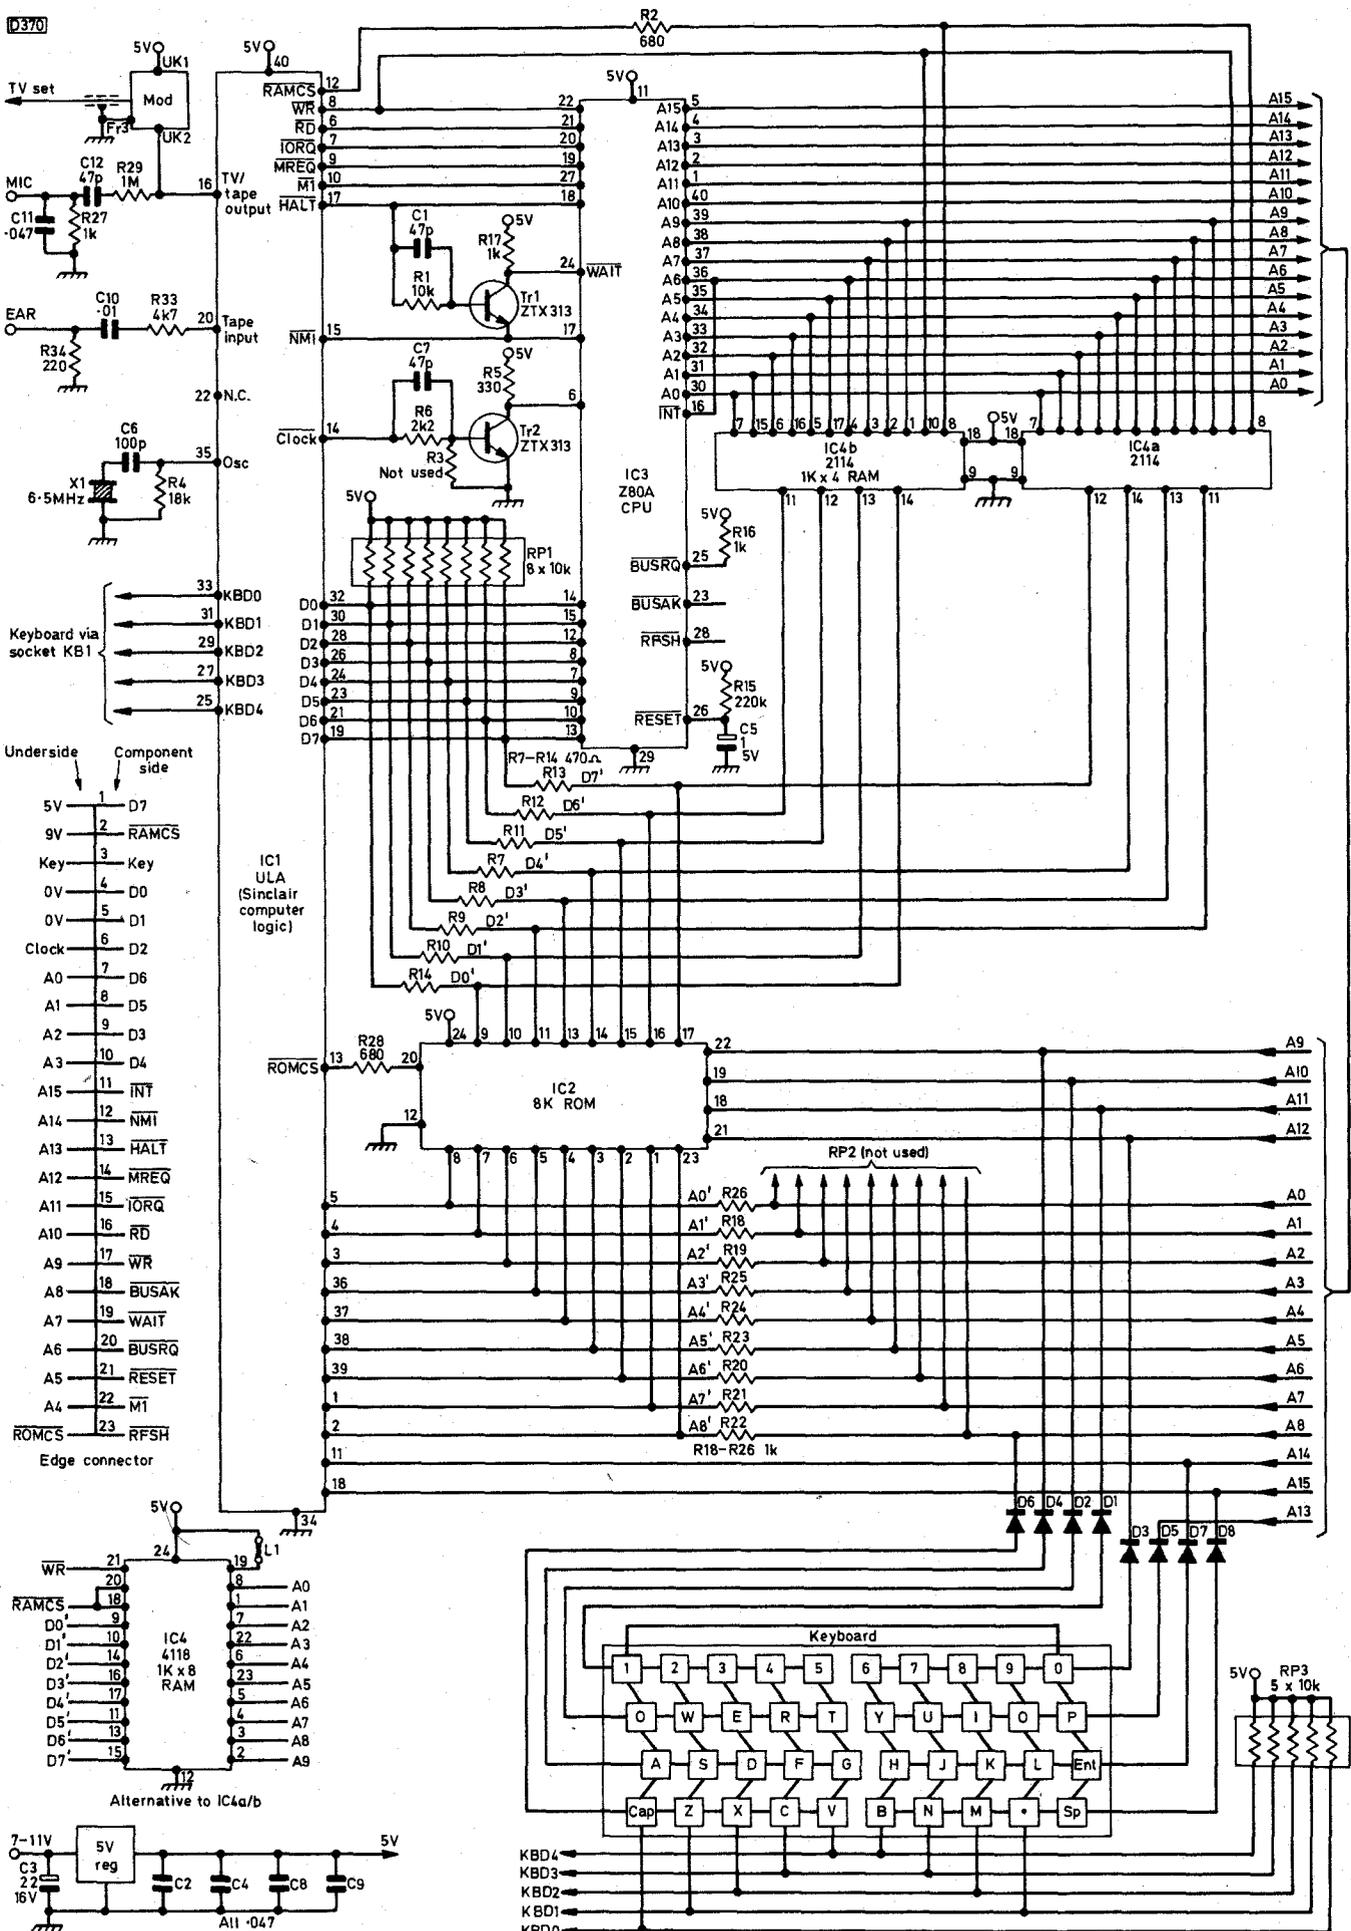

Fig. 1: Basic circuit diagram for the Sinclair ZX81 microcomputer.
So when you study the ZX81's circuit details (Fig. 1) remember that this is a very specialised machine with a component count unlike most other microcomputers, though it does have a standard CPU and a system that functions in the same way despite looking so different.
Further examination of Fig. 1 will help to explain some of the differences and clear up many of the problems described above. You'll see that the ULA chip is connected to the TV and tape circuits directly at pins 16 and 20. It can decode the address lines and then enable either the RAM or the ROM via one of the Chip Select (CS) lines at pins 12 and 13. It also assists the CPU in reading the keyboard, via the KBD0-KBD4 lines. These link the ULA to the keyboard via a five-pin socket (KB1) that's not shown in the diagram. This PCB-mounted socket connects the keyboard "tails" to these lines while an eight-pin socket (KB2), also not shown, connects the other keyboard tails to diodes D1-8. The ULA also produces
There have been at least three versions of the PCB. Fig. 1 represents the issue one board but I've experienced no difficulty in identifying the circuitry on later boards. They vary a little in layout but the component numbers on the boards seem to be the same. One of the only differences on the issue three board is the use of individual resistors in place of packs RP1 and RP3 – R35-42 and R43-47 respectively. There's a photograph of an early version of the issue one board, without component numbers, on page 162 of the ZX81 BASIC Programming Book that was supplied with every machine. This photograph shows all the i.c.s mounted in sockets, which certainly isn't the case with later boards. Note also that the ULA is called the "Sinclair Computer Logic" which is a less standard but perhaps more sensible name.
The power supply unit is separate from the computer and connects to it via a 3.5mm jack plug. It's not shown in Fig. 1 but is a simple d.c. unit that gives very little trouble – except for the moulded jack. If you have one that's been changed, make sure that the tip is positive.
(1) The power supply should provide about 11V at 400mA on load. Less than 7V will be insufficient for the regulator to function correctly. An excessive current reading indicates a fault on the board.
(2) The regulator should deliver 5V to each of the i.c.s on the board. Its heatsink normally runs hot to the touch, but not unbearably so.
(3) The signal from pin 16 of the ULA chip to the modulator should give a 'PH' indication on the logic probe (see Table 2). An oscilloscope should display a signal of 2V peak amplitude from the peak to the bottom of the sync pulses. Inverse K will produce a very faint signal near the end of the field trace.
(4) If the modulation signal is present but the TV output is absent check the modulator's supply voltage and the tuning adjustment screw - this should be approximately 3mm down inside the former.
(5) If the cursor is present, connect one of the contacts of the small keyboard socket KB1 to a contact on the large socket KB2. Check whether a character or keyword appears on screen. Don't worry about shorting more than one connector in either of the sockets as this won't cause any damage to the computer - but it won't produce a display either as the software checks that only one key (apart from the shift key) is being pressed before it produces a screen display.
(6) Two faults that can affect the keyboard circuit are shorts between the lines or open-circuit lines or diodes. They can be identified by their effect on the system. Open-circuits affect only the keys they connect (see Fig. 1). A short effectively holds one key on, disabling the whole keyboard. Faults can occur anywhere in the circuit, from the address bus side to the diodes to the ULA chip's KBD pins. Check for shorts where the PCB tracks run obliquely under socket KB1. The resistance between these KBD tracks should be a few thousand ohms.
(7) The keyboard connection tails are very vulnerable, so to avoid unnecessary work make a thorough check that the computer is working satisfactorily before reconnecting the keyboard. Connect each contact on the small five-pin socket KB1 to at least two contacts on eight-pin socket KB2, checking the screen entries. Finally make sure that the tails are not splitting across (see following paragraph) and that the metallised contacts at the ends are in good condition. Then reconnect the keyboard by turning the case face down, front towards you, with the PCB laid component side up on the case so that the edge connector is at the front left: loop the tails over and push them carefully into the sockets, with a slight rocking movement. Don't push too hard or the plastic will buckle and split. When both tails have been fitted turn the PCB over on to its screw pillars and secure with two short screws.
(8) Often one bank or row of the keyboard fails to operate. This is usually due to cracks across the plastic tails severing one or more of the tracks. If the crack is near the end of the tail a clean square cut can sometimes be made, removing the fault. If not too short the tail can then be refitted. As mentioned above the end contacts of the tails should be checked to make sure that there's a good contact for the connectors. If the ends look a little dirty don't be tempted to apply a liquid solvent cleaner - some of these attack the plastic (they don't soften it, they completely disintegrate it!).